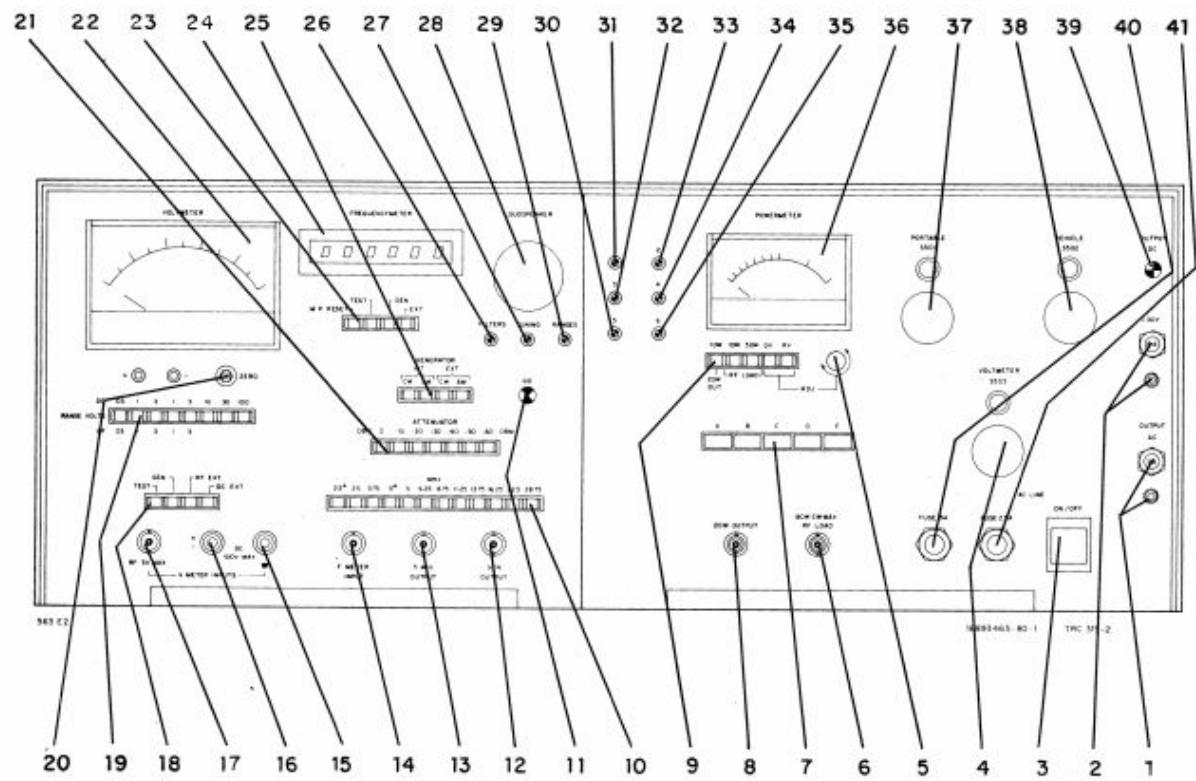

Fig. 1-3
1-3 - Starting-up Operations and Verification of the Test Set (Fig. 1-3)
- . The three indicator lamps (items 39, 3 and 11, fig. 1-3) are lit.
- . Set S501 (item 37, fig. 1-3) to 6.
- . Set the frequency meter selector (item 23, fig. 1-3) to TEST.
- . Check for a reading of 1.0 off the frequency meter (item 24, fig. 1-3).
- Set the voltmeter selector (item 18, fig. 1-3) to TEST.
- Set the voltmeter attenuator (item 21) to 0.1 V.